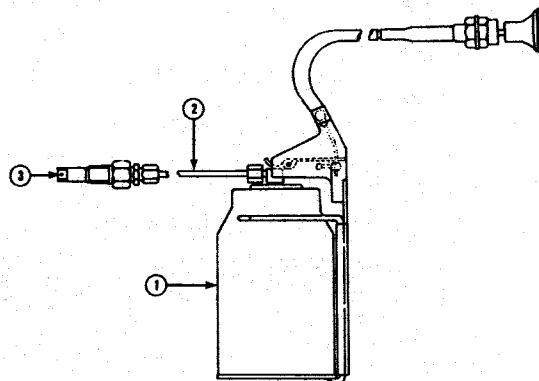

Fig. 1-7, (V11469). Starting fluid spray applicator
Spray nozzle assembly consists of a control knob operated from cab, a flexible cable and cable housing attached to container, bracket mounted on fire wall (1, Fig. 1-7). Pulling knob, in cab, releases spray through a small plastic hose (2) into spray nozzle (3) located in intake crossover connection or air intake manifold. Small orifice holes in spray nozzle must be positioned to allow fluid to spray into both left bank and right bank intake manifolds of V type engines.